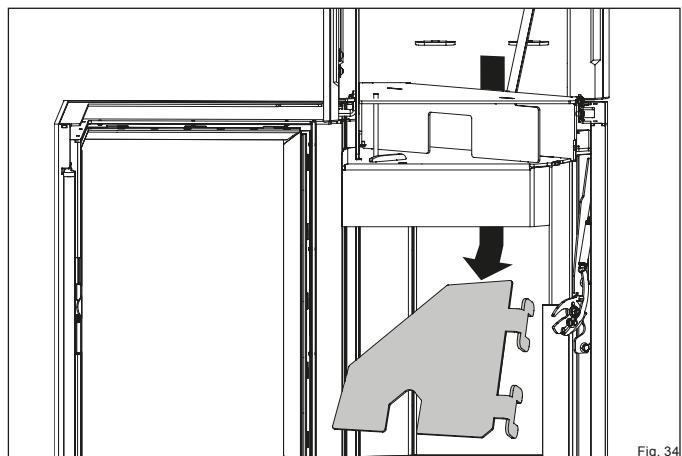

Fig. 34
- ▶ Remove the baffle plate through the back opening (Figure 34).